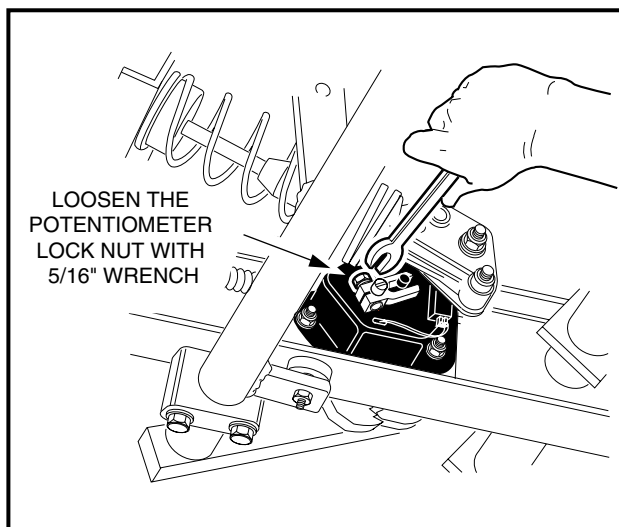

FIGURE 6-17
- 4.7. Using a 5/16" wrench, loosen the potentiometer adjustment lock nut (See Figure 6-17).